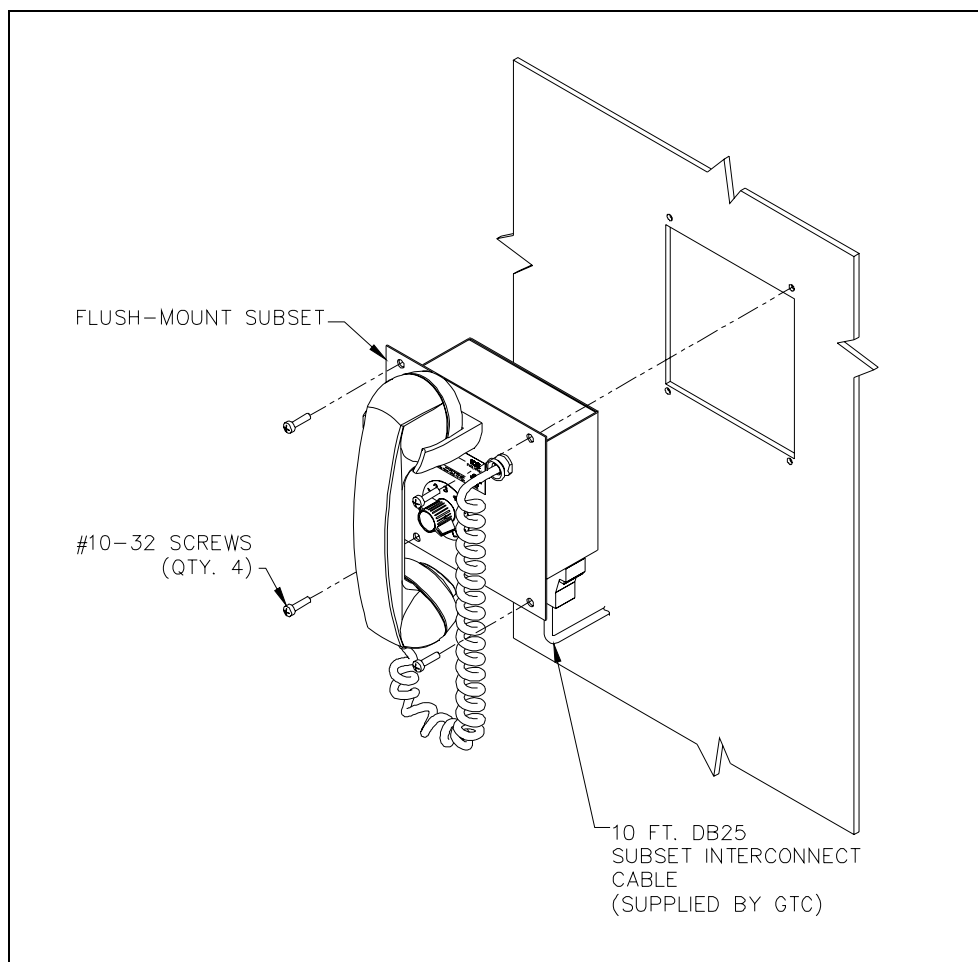

Figure 4. Typical Flush-Mount Installation
3. Secure the subset to the mounting surface using four #10-32 screws and the mounting holes. Refer to Figure 4 for a typical installation.